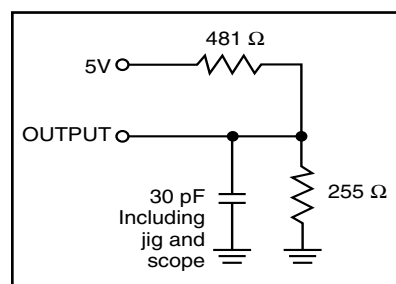

Figure 1
Output Load	See Figures 1 and 2
1. Test conditions assume signal transition times of 5 ns or less, timing reference levels of 1.5V, input pulse levels of 0V to 3.0V and output loading specified in Figure 1.